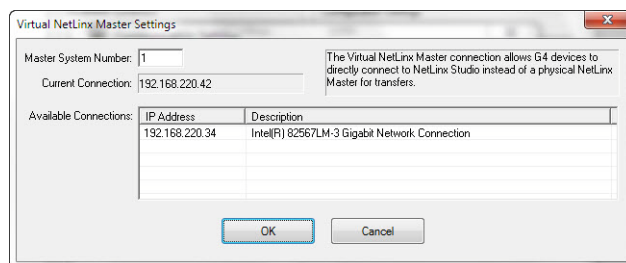

FIG. 19 Virtual NetLinx Master Settings
6. Click the **Edit Settings** button on the *Communications Settings* dialog to open the *Virtual NetLinx Master Settings* dialog (FIG. 19).